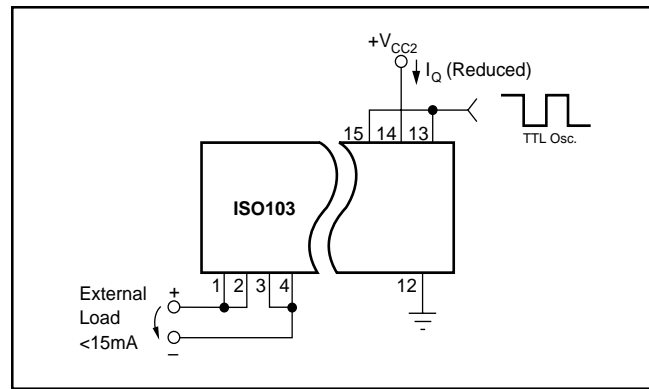

FIGURE 5. Reduced Power Dissipation.
Multichannel synchronization with reduced power dissipation for applications requiring less than  $\pm 15mA$  from  $V_{CC1}$  is accomplished by driving both the Sync input pin (15) and Enable pin (13) with the TTL oscillator as shown in Figure 5.